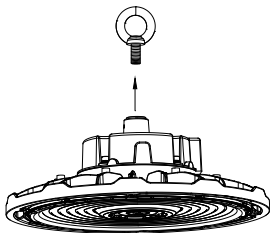

Figure 4
1. Remove the original hook from the driver. (Figure 4)